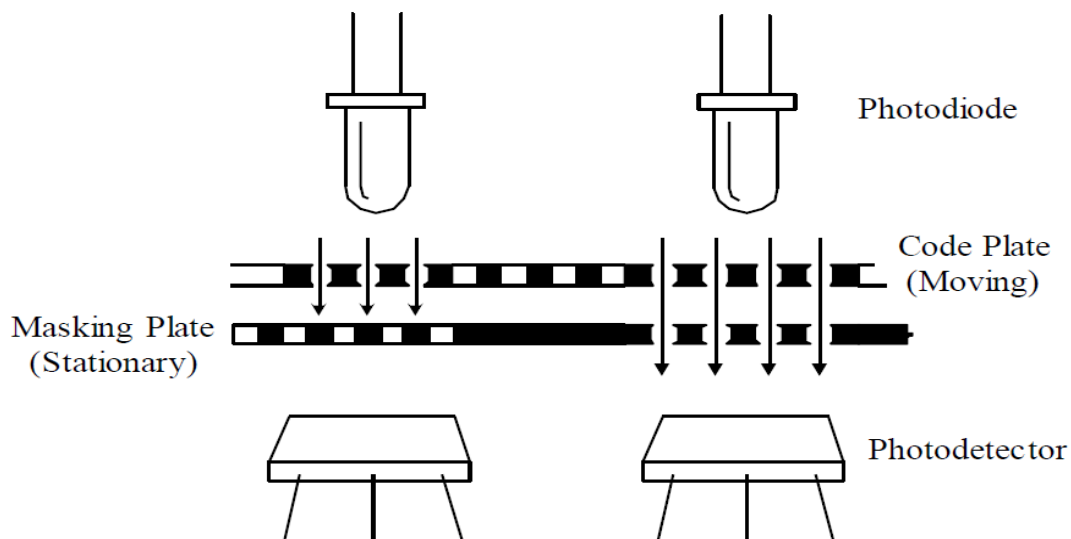

Figure P6.21: Photodiode-detector arrangement of a linear optical encoder.
- (b) Figure P6.21 illustrates one arrangement of the optical components in a linear incremental encoder.
Explain the purpose of the two sets of photodiode-detector units, giving a schematic diagram of the necessary electronics. Can the direction of motion be determined with the arrangement shown in Figure P6.21? If so, explain how this could be done. If not, describe a suitable arrangement for detecting the direction of motion.